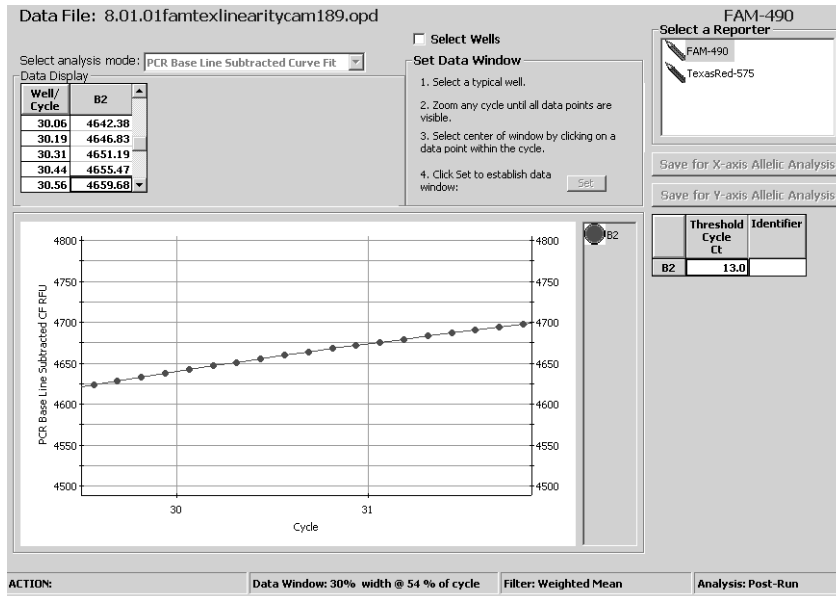

Fig. 7.14. Zoomed in view.
- Choose any single well by clicking on its paint pot to the right of the plot, and then while holding down the Shift key, drag the mouse across a section of the plot to zoom in on. You may zoom more than once. (Figure 7.14)